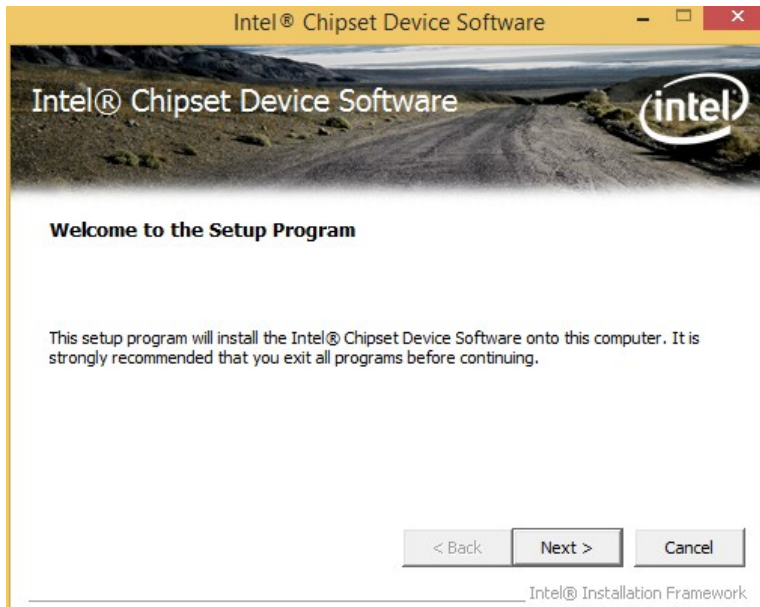

Figure 6-3: Chipset Driver Welcome Screen
Step 4: When the setup files are completely extracted, the **Welcome Screen** in **Figure 6-3** appears. Click **Next** to continue.